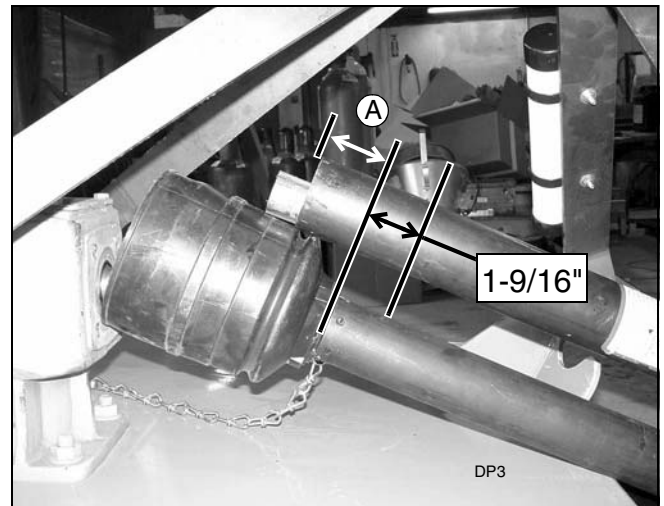

Figure 7. Determine Shield Length
4. Measure from end of the upper shield to the base of the bell on the lower shield (A). Add 1-9/16" to dimension (A). See Figure 7.